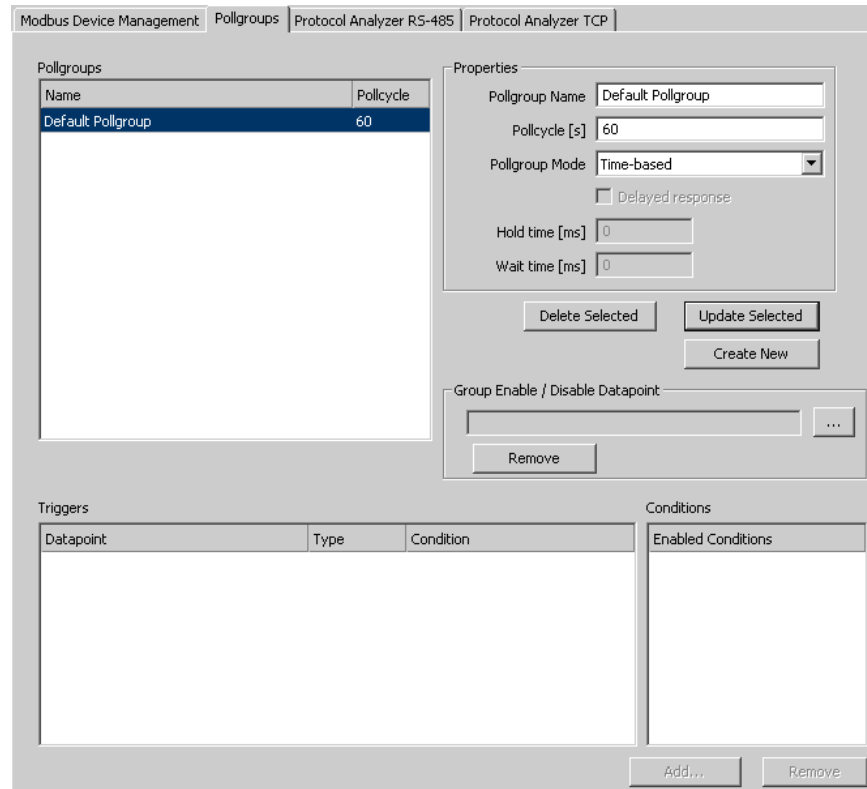

Figure 108: Pollgroup Management dialog.
2. Open the **Pollgroups** tab. This shows the dialog displayed in Figure 108.
2. In the **Modbus Management** dialog, open the **Pollgroups** tab. This displays the poll groups management tab displayed in Figure 108.